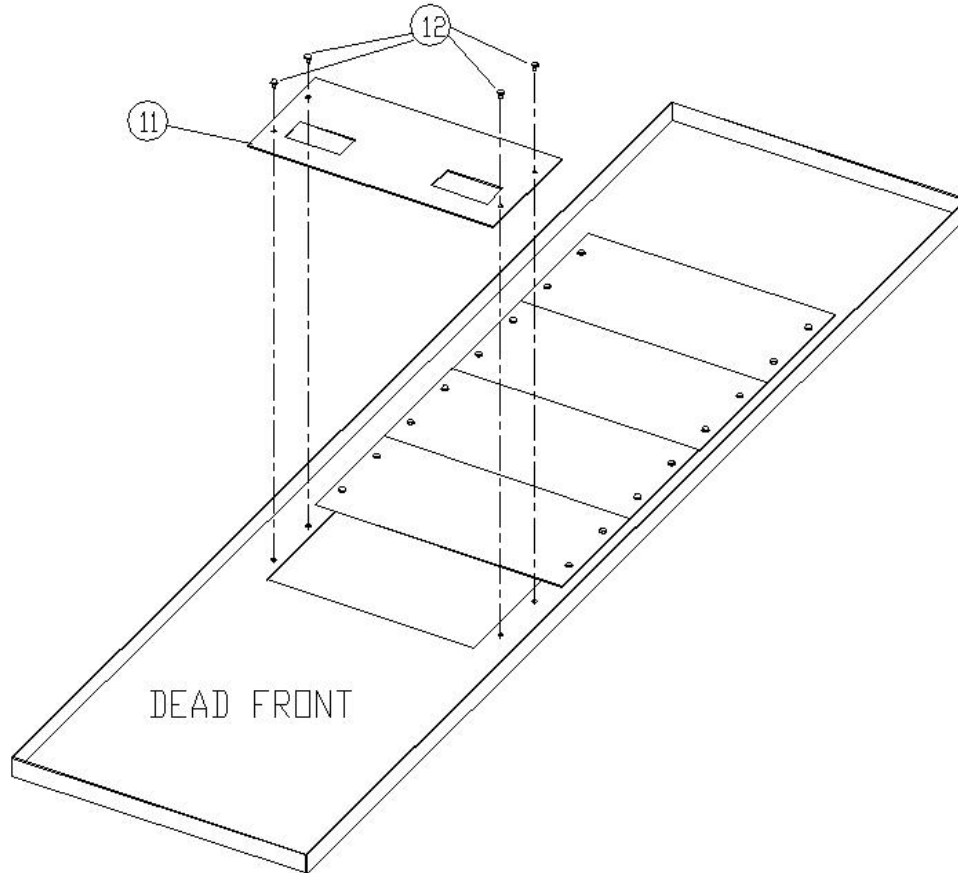

Figure 3. Attaching the shield insert to the shield for TQD breaker installation in A-Series® II Panelboards.
10. Place the filler plate [11] over the dead front so that the four same-size holes line up with the threaded holes of the dead front, as illustrated in Figure 3. Fasten filler plate to the dead front with four #10-32 x $\frac{3}{8}$ screws [12] tightened to 27-36 in-lb.